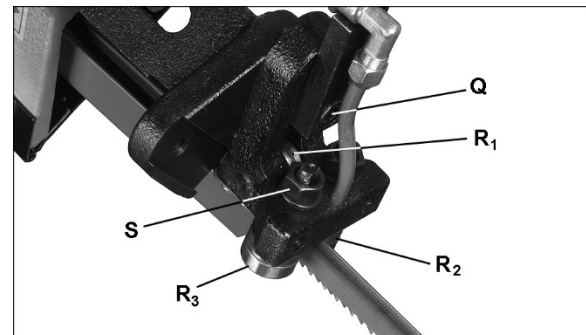

Figure 8-9: Blade Guide Setting
- 2) Loosen the bolt (Q, Figure 8-9) and adjust the assembly so that the rear bearing (R1) is approximately 0.002 to 0.003 inches from the back of the blade. Also, the inside bearing (R2) should very lightly contact the blade. Tighten bolt (Q).
- 3) If there is a gap, loosen bolt (Q, Figure 8-9) on each blade guide assembly and rotate blade guide assembly until gap is eliminated between square and ruler.
- 4) Retighten bolts (Q, Figure 8-9).